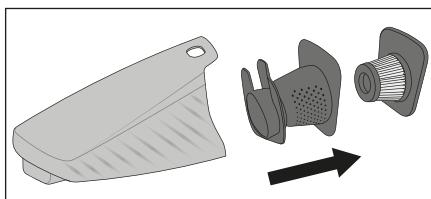

Fig. 4
① NOTE
- To achieve the best results, empty the dirt container ⑦ and clean the EPA filter ⑤ regularly.
- If you need a new EPA filter ⑤, please contact our customer service department (see section **Ordering replacement parts**).
- 1) To open the dirt container ⑦, remove the hand element ③ from the hand element recess ⑬.
- 2) Press the release button ▲ ④ and, at the same time, pull the dirt container ⑦ forwards and off.
- 3) Start by pulling the EPA filter **5** and then the coarse filter **6** out of the dirt container **7** (Fig. 4). Tap out both parts over a rubbish bin or similar. If necessary, you can rinse out the EPA filter **5** with fresh water. Allow it to air dry fully afterwards.